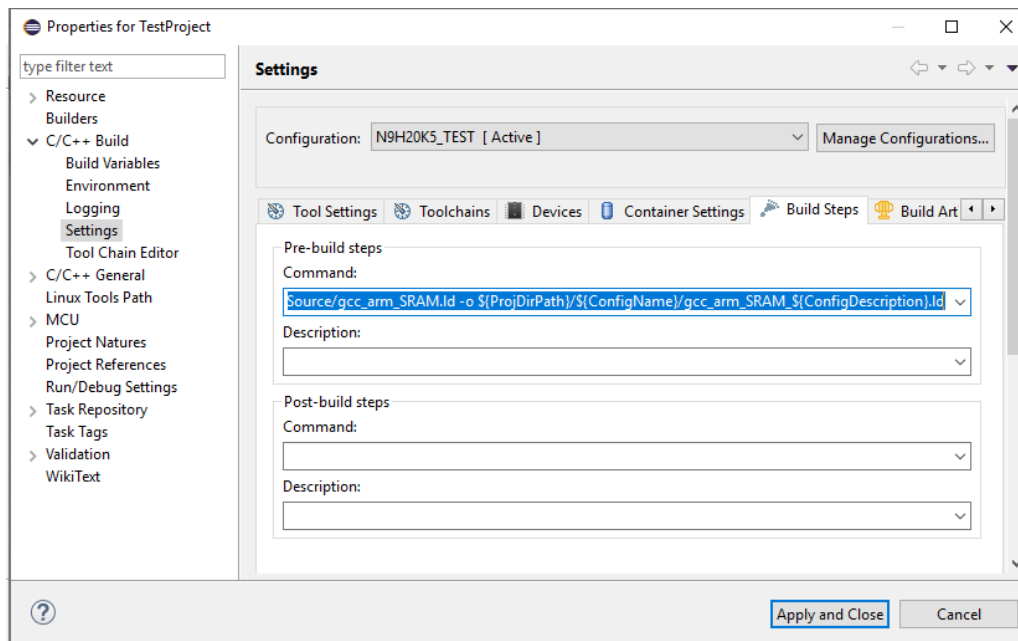

Figure 2-21 Setup Pre-build Command
9. If the created project is a executable one, please select the linker Script file in **GNU ARM Cross C Linker**. Before to select Script file, some statements need to add in **Properties → Setting → Build Steps → Pre-build Steps** Command window as shown in Figure 2-21.